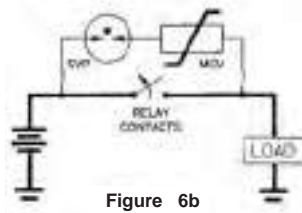

Figure 6b
- Figure 6b indicates an MOV in series with an SVP (Surge Voltage Protector — spark gap). The MOV absorbs transient overshoot energy, the SOV provides excellent dielectric once the circuit is open. This solution is also compact in size and low cost.